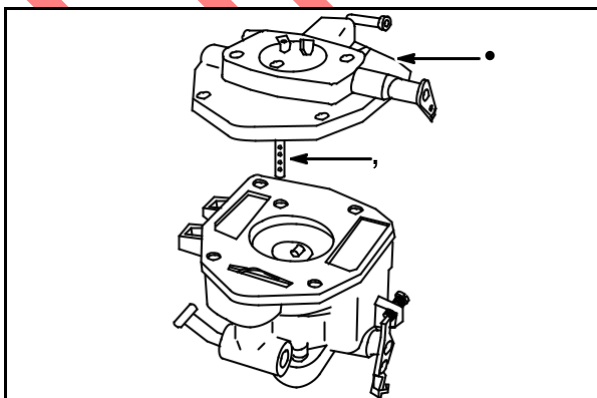

Fig. 78
Remove four screws and upper body (1), **Fig. 78**. Do not damage emulsion tube (2) in upper body.